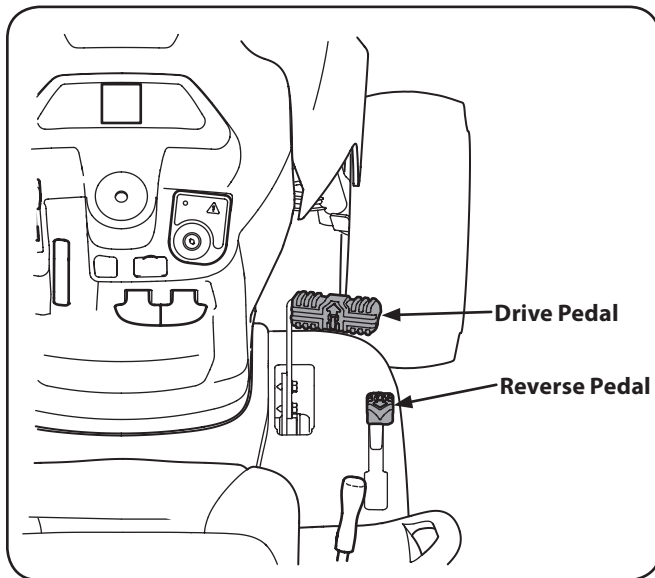

Figure 5-1
2. To travel FORWARD, slowly press the upper portion of the drive pedal forward until the desired speed is achieved. See Figure 5-1.
3. To travel in REVERSE, check that the area behind is clear, then slowly depress the lower portion of the drive pedal with the ball of your foot (NOT your heel) until the desired speed is achieved. See Figure 5-1.